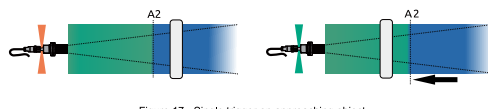

Figure 17 - Single trigger on approaching object
- The output signal switches when the object approach distance (S) is smaller than the adjustment distance (A2). The operating principle is shown in Figure 17. A user-wide setting must be implemented for operation: A2 = S, A1 → ∞.